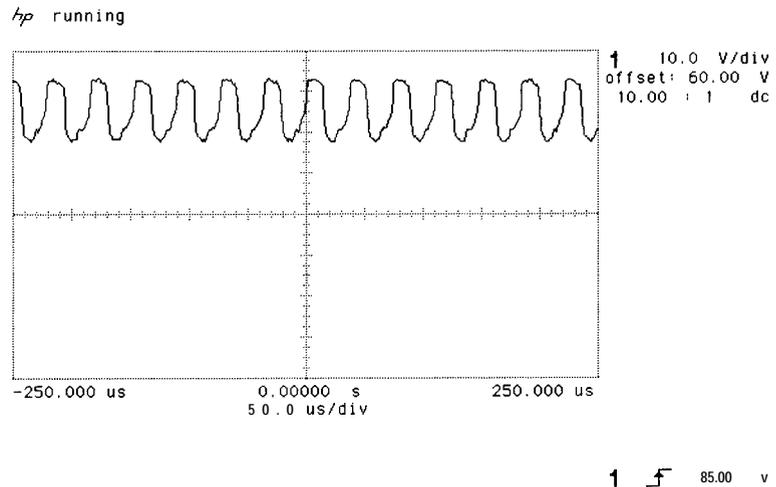

Figure 3-10. Waveform at A1A3TP5
39. Slowly adjust the front-panel INTENSITY control through its entire range while monitoring the peak-to-peak voltage at A1A3TP5. As the INTENSITY control is turned clockwise, the peak-to-peak voltage at A1A3TP5 will drop. To prevent long-term CRT damage, this voltage should not drop below $(V_{co} - 50)V_{p-p}$ or $12 V_{p-p}$, whichever is greater. See Figure 3-10. (The value of V_{co} was recorded in step 34.)